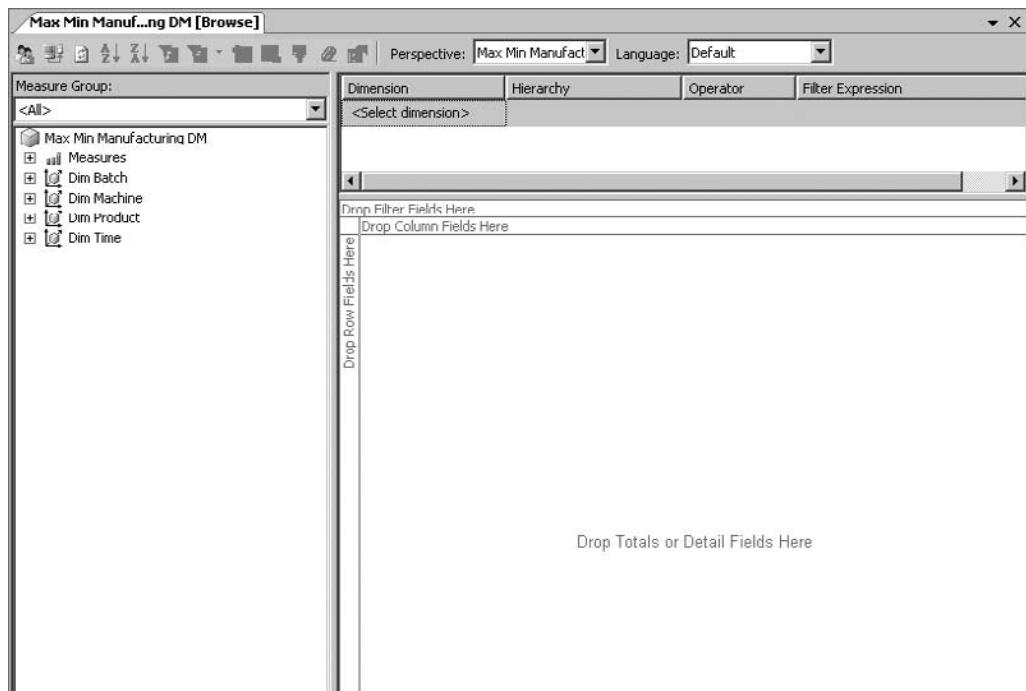

Figure 10-3 The Browse window in the SQL Server Management Studio
12. Right-click the Max Min Manufacturing DM cube and select Browse from the context menu. You see a Browse window, as shown in Figure 10-3.